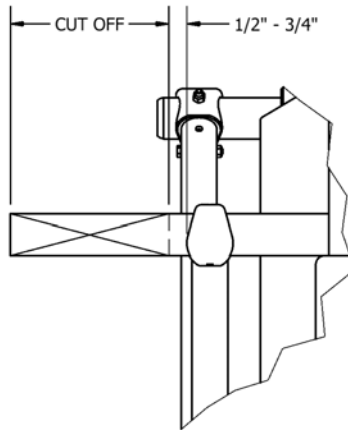

Figure 20
7) **See Figure 20.** Cut off excess Cross Tube (1) to extend 1/2" - 3/4" beyond Arm End Cap.
8) **See Figure 20.** Insert Plug Ends (4) into ends of Cross Tube (1).